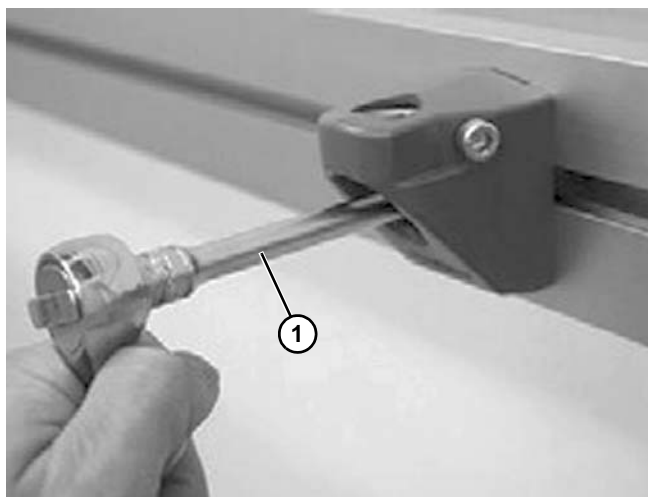

Figure 85
2. Attach the bracket onto conveyor beam and tighten with a socket wrench (**Figure 85, item 1**).